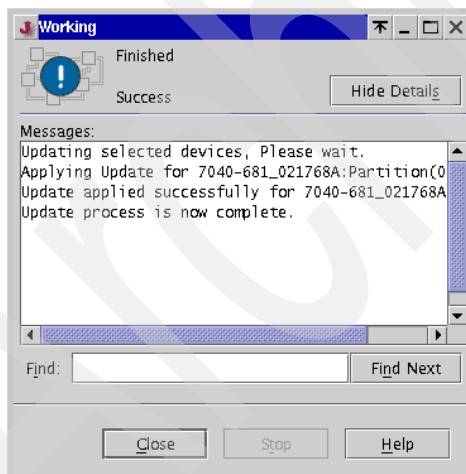

Figure 11-30 Microcode Updates Finished
9. When the microcode update is completed, the window in Figure 11-30 appears. The system will automatically reboot if required.